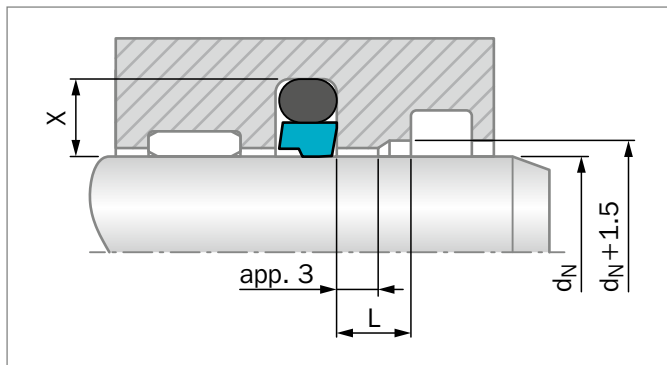

Figure 3: Recommendation for groove spacings between grooves
- Oil reservoir for collecting the returning oil as shown in Figure 3.